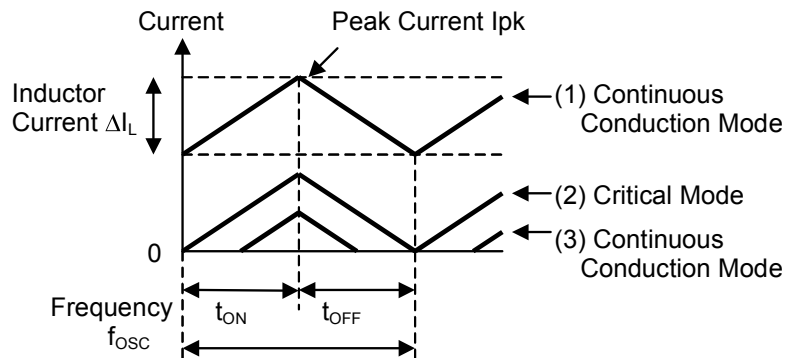

Fig. 6. Inductor Current State Transition
Ideally, the value of L is set so that inductance current is in continuous conduction mode. However, as the load current decreases, the current waveform changes from (1) CCM: Continuous Conduction Mode → (2) Critical Mode → (3) DCM: Discontinuous Conduction Mode (Fig. 6.).